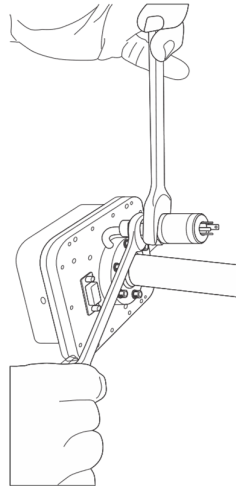

Figure 33: Removing the old pressure sensor A0054944
12. Using a 9/16 in. wrench, secure the flange while using a 7/8 in. wrench to remove the old pressure sensor. Refer to Figure 33.